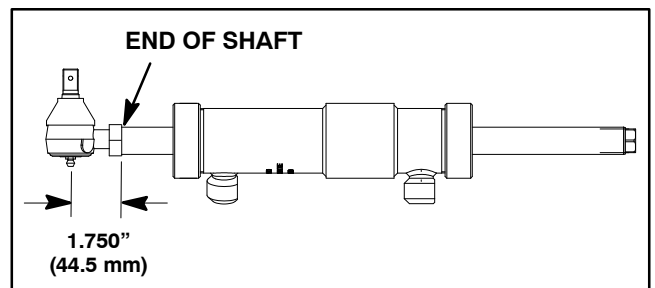

Figure 10
5. Jack up machine so all four (4) wheels are off the ground. Support raised machine with appropriate jack stands.
6. Make sure that the steering cylinder rod ends (both front and rear) are properly installed. The distance from the end of the cylinder shaft to the center of the rod end grease fitting should be 1.750" (44.5 mm) (Fig. 10). If needed, loosen jam nut and adjust location of rod end. If adjustment is made, torque jam nut from **83 to 101 ft-lb (113 to 136 N-m)**.